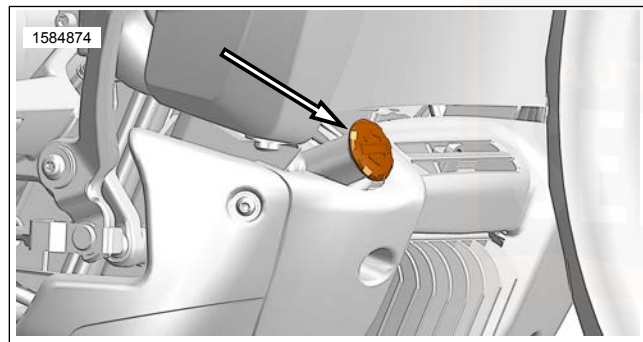

Figure 69. Coolant Filler Cap/Dipstick (Typical)
3. Remove coolant plug/dipstick. See Figure 69.
5. If level is below "MIN" line (1), add GENUINE HARLEY-DAVIDSON EXTENDED LIFE ANTIFREEZE AND COOLANT until fluid level reaches the "MAX" line (2).
6. Install coolant reservoir plug/dipstick. See Figure 69.